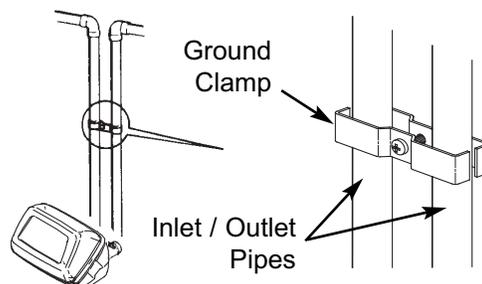

FIG. 11
a. Install the included metal ground clamp across the removed section of main water pipe, securely tightening the hardware at the center (See Figure 11).